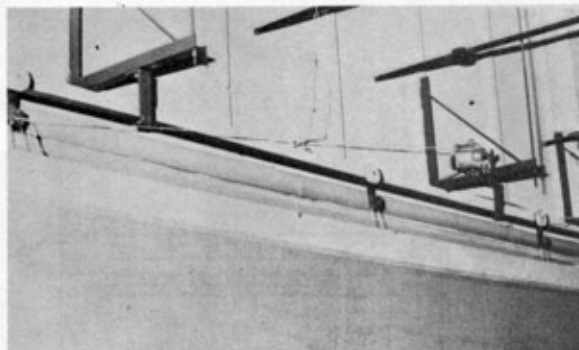

Fig 3. Rear Screen showing rollers, trackway and drive motor.
- (h) The control unit then operates a relay to supply the rear screen drive motor with current which moves the screen about 5mm along the trackway (see Fig 3). Light from the floodlights is thus prevented from reaching the firer and the pinpoint of light disappears.